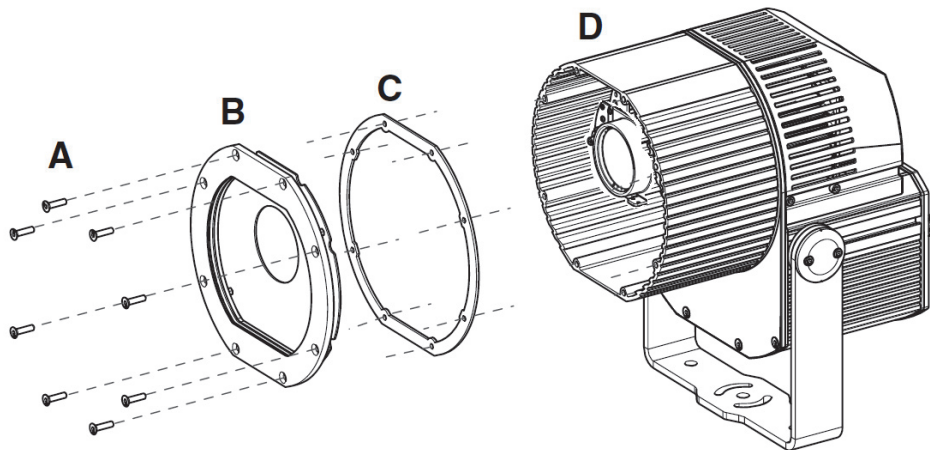

Figure 1: Removing the front cover
3. See Figure 1. Remove the eight Allen screws **A** that hold the front cover **B**, then remove the front cover **B** and front cover seal **C** from the fixture housing **D**.